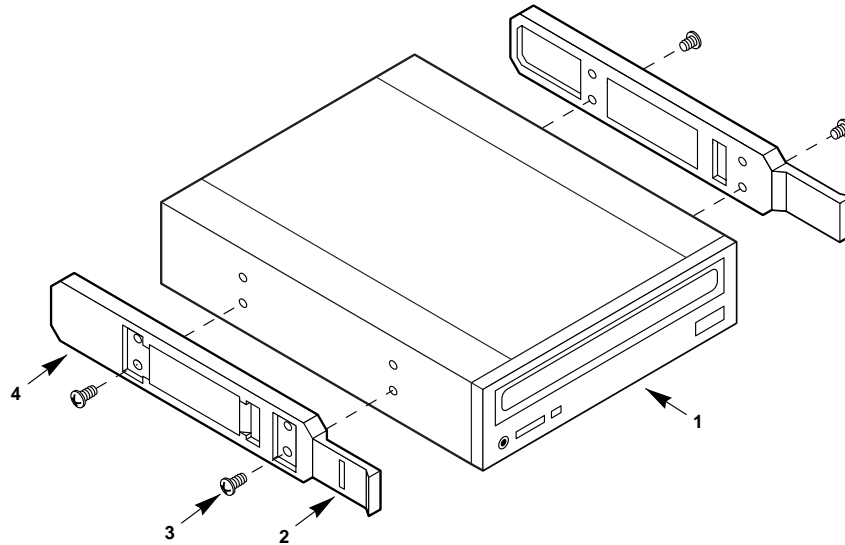

Figure 4-8. Snap-in Plastic Slide Rails
9. Using two screws of the appropriate size and length (not supplied), attach each plastic slide rail (Figure 4-8) to the CD-ROM drive.